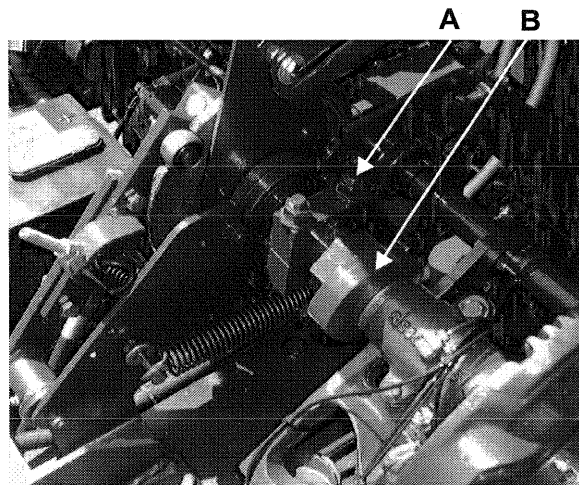

Fig.37
This adjustment is made with shims between the cam gears and knotter frames. Shimming must be done between the cam gears and the knotter frames any time a knotter is assembled. Excess space between the cam gears and the knotter frames, is taken out by adjusting the (2) square head set screws on the left hand Knotter Shaft Clamp "A," against the Twine Finger Cam "B," *Fig.37*.